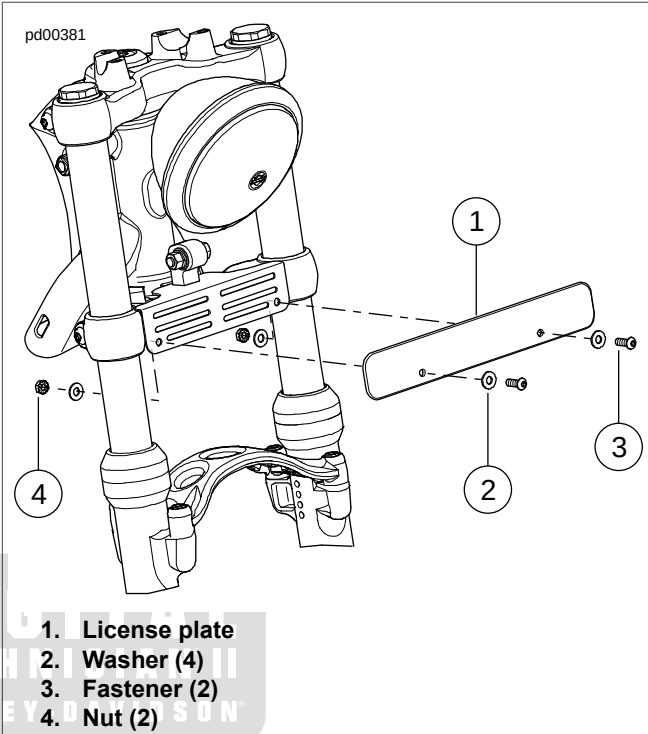

Figure 2-196. License Plate Mount: XL 1200X/C/C ANV (India)
1. See Figure 2-196. Install license plate (1) to license plate bracket and secure with fasteners (3), washers (2) and nuts (4).